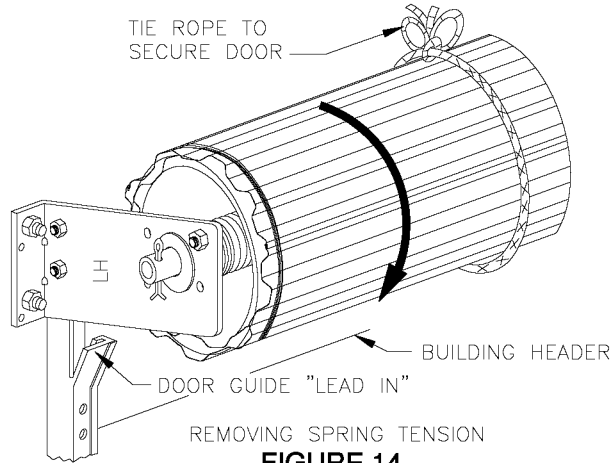

FIGURE 14
RAISE DOOR TO FULL OPEN POSITION. REMOVE HEAD STOPS WHILE HOLDING DOOR IN PLACE. SECURE DOOR IN FULL TOP POSITION. DO NOT LET GO OF DOOR. TIE ROPE TIGHTLY AROUND CURTAIN ROLL AS SHOWN IN FIGURE 14 ABOVE.
STEP 17 IF DOOR DRAGS IN GUIDES: (A) CHECK DOOR MOUNTING BRACKETS FOR PLUMB. (B) ADJUST LOCATION OF GUIDES FOR 3/8" CLEARANCE FROM CURTAIN ROLL END TO INSIDE OF VERTICAL GUIDE RAIL, TOP AND BOTTOM. (C) CHECK GUIDES FOR FOREIGN MATTER, SUCH AS DIRT, ETC. (D) CHECK FOR DAMAGED GUIDES. (E) ADJUST LEAD-IN BEND AT TOP INSIDE OF GUIDES ("LEAD IN" SHOWN IN FIG. 14).
STEP 18 IF DOOR DOES NOT CONTACT FLOOR LEVEL: (A) USE SPRIT LEVEL TO CHECK WHETHER DOOR OR FLOOR IS OUT OF LEVEL. (B) CONFIRM DOOR SUPPORT BRACKETS AND GUIDES ARE LEVEL. (C) ROLL DOOR ALL THE WAY UP AND CHECK IF CURTAIN ROLLS STRAIGHT ON DRUMS, END OF DOOR SHOULD BE SQUARE.